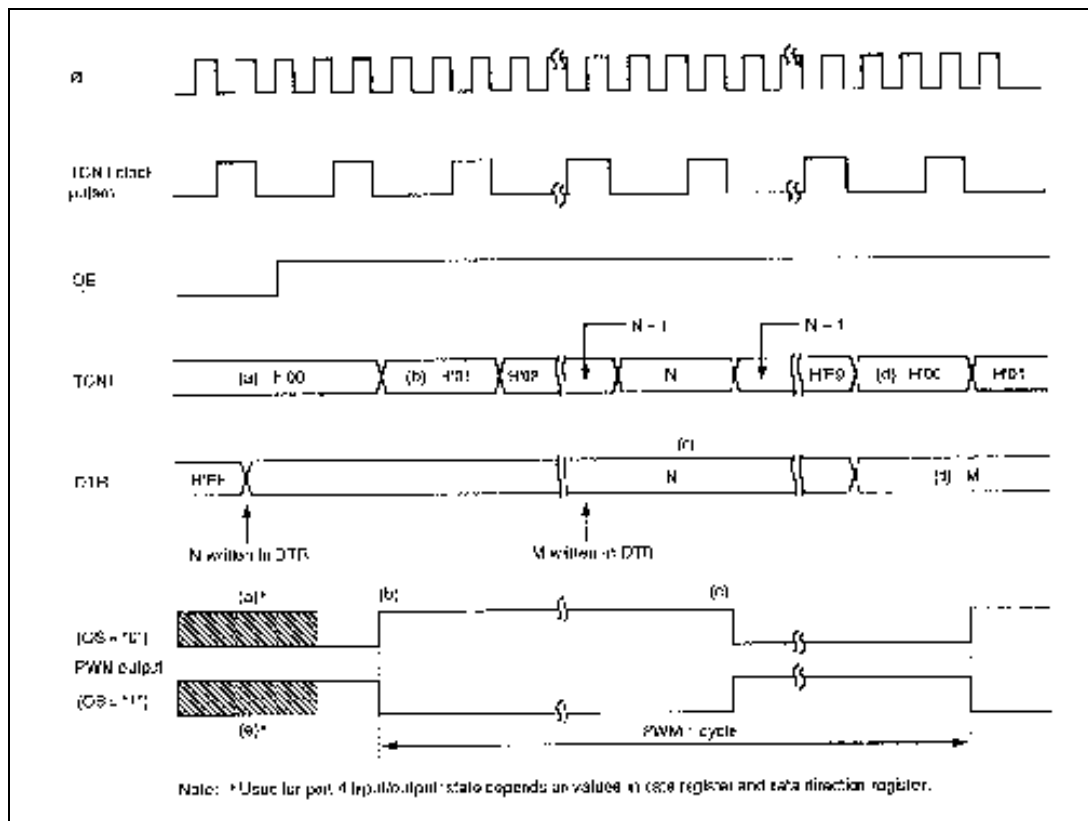

Figure 8-3. PWM Timing
Figure 8-3 is a timing chart of the PWM operation.
[1] When (OE = “0”) – (a) in Figure 8-3: The timer count is held at H'00 and PWM output is inhibited. [Pin 46 (for PW0) or pin 47 (for PW1) is used for port 4 input/output, and its state depends on the corresponding port 4 data register and data direction register.] Any value (such as N in figure 8-3) written in the DTR becomes valid immediately.
i) The timer counter begins incrementing. The PWM output goes High when TCNT changes from H'00 to H'01, unless DTR = H'00. [(b) in figure 8-3]
ii) When the count passes the DTR value, the PWM output goes Low. [(c) in figure 8-3]
iii) If the DTR value is changed (by writing the data “M” in figure 8-3), the new value becomes valid after the timer count changes from H'F9 to H'00. [(d) in figure 8-3]
(2) Negative Logic (OS = “1”) – (e) in Figure 8-3: The operation is the same except that High and Low are reversed in the PWM output. [(e) in figure 8-3]